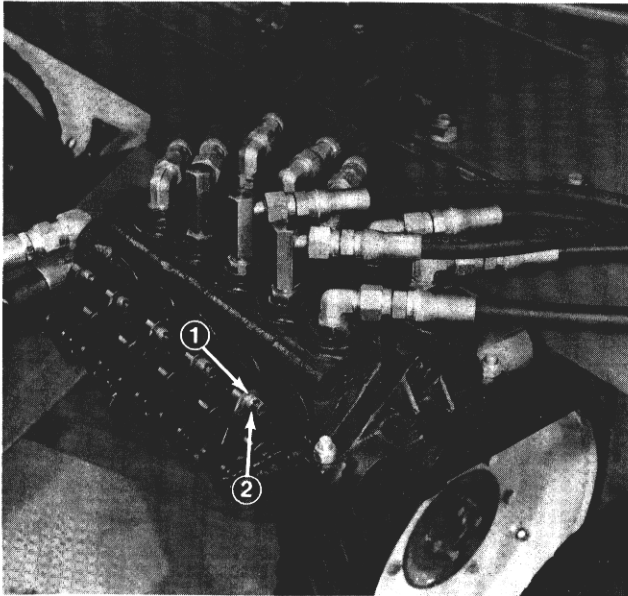
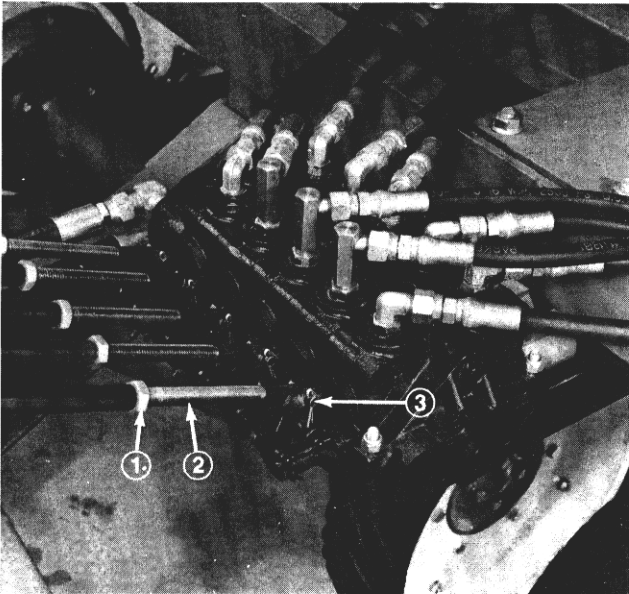
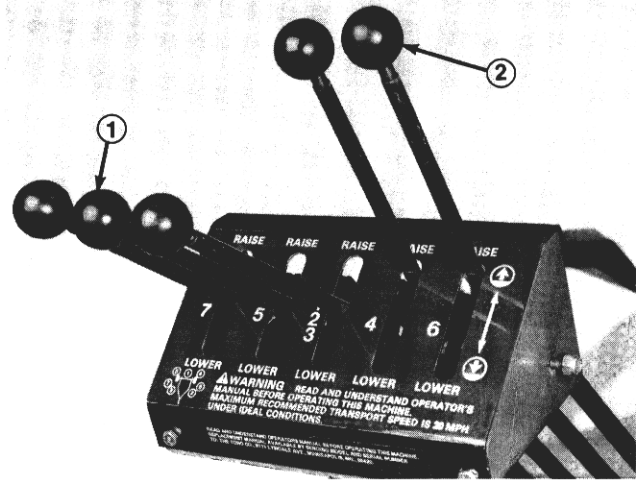

Figure 17
Figure 18
Figure 19
9. Check to make sure valve spool levers (Fig. 17) are in neutral (middle position) by pivoting levers in toward valve, or pulling them out to find mid position.
10. Thread 7/16-14 hex nuts onto lower control rods. Partially thread lower control rods into upper control tubes (Fig. 18). Coat threads with #2 gun grease.
11. Align hole on end of lower control rod (Fig. 18) with mounting pin in control valve lever (Fig. 17). Lever on control tower should be in center of slot (neutral position) if adjusted correctly (Fig. 19). Thread lower rod into or out of upper control tube to adjust. After each lever is adjusted, check to make sure all levers are aligned with each other. Readjust if necessary.
12. Secure control rods to control valve levers with cotter pins (Fig. 18).
14. When adjusted correctly, tighten jam nuts on lower control rods (Fig. 18).